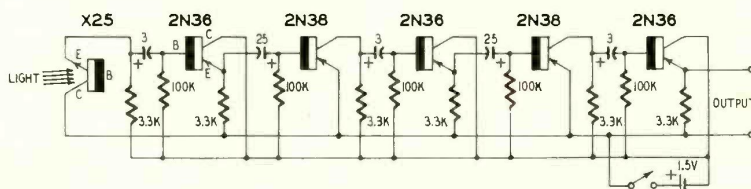

Fig. 6—A phototransistor amplifier. The X-25 does not require any bias.
**Phototransistor amplifier** The first transistor may be replaced by a phototransistor such as the X-25 (made by Transistor Products, Inc.). Fig. 6 shows the modified circuit. This transistor needs no bias. It has to be connected "upside down" with the emitter negative and the collector positive, as it is an n-p-n transistor. This circuit is that of a sensitive modulated light receiver.